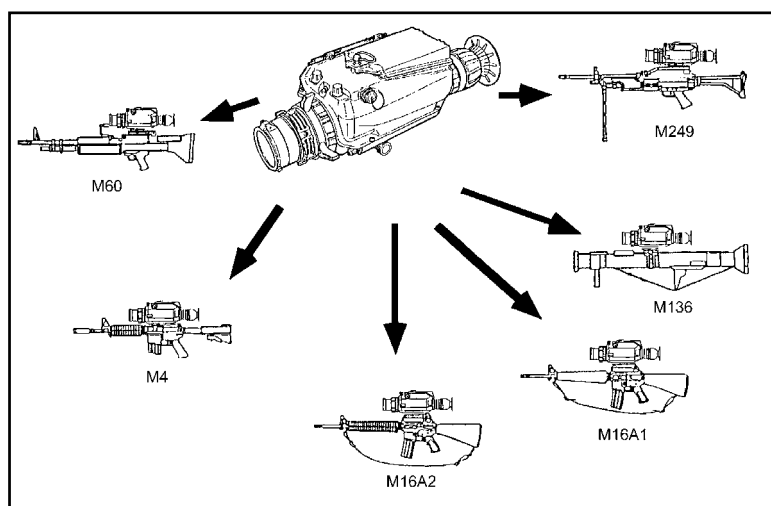
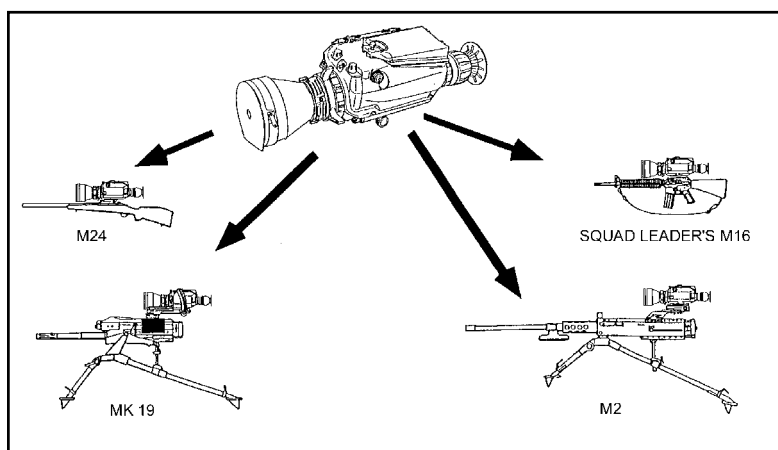

Figure F-16. MTWS.
Figure F-17. HTWS.
(2) The only difference between the MWTS and the HWTS are the telescopes, which are different magnifications and hold different reticles. The basic sensor on the two models is the same. The MWTS fits the M4 carbine, the M4 modular weapon system, the M16A2, the M16A4 (not shown), the M249, the M60 machine gun, the M240B machine gun (not shown), and the M136 grenade launcher (Figure F-16). The HWTS fits the squad leader's M16, the M24 sniper rifle, the M2, caliber .50 machine gun, and the MK-19 grenade launcher (Figure F-17).